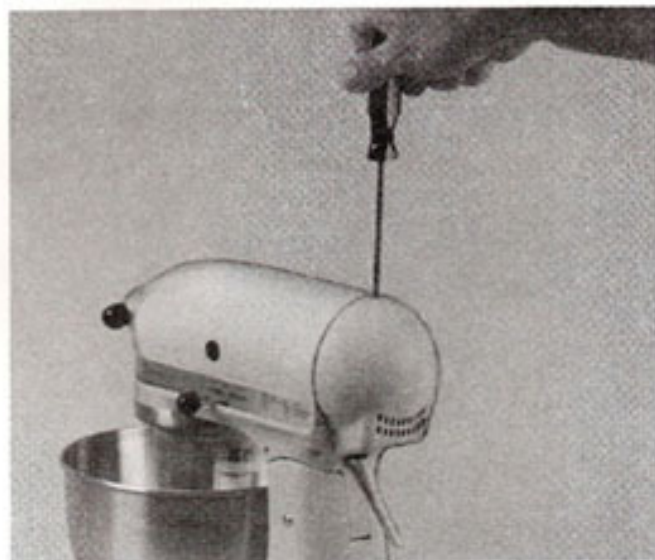
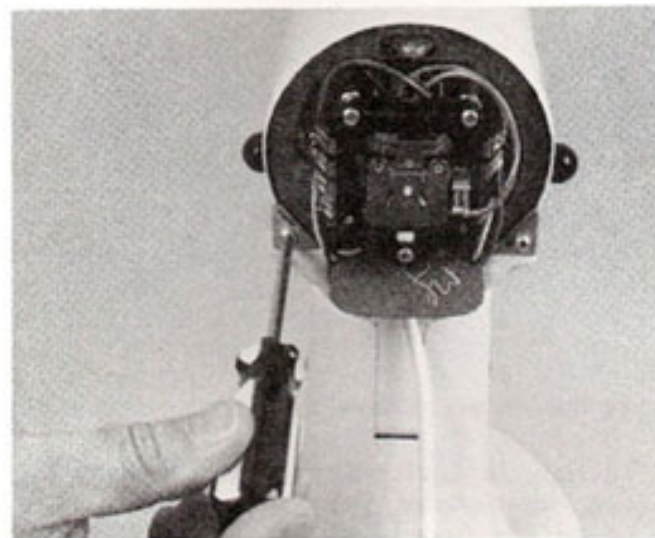

Fig. 5
Fig. 6
- E. Remove the #6-32 x $\frac{3}{8}$ " oval head screw and take off the end cover (Fig. 5). Unscrew and remove the two #6-32 x $\frac{3}{16}$ " binding head screws that hold the trim band to the gear case and motor housing (Fig. 6). With screws out, remove the trim band.